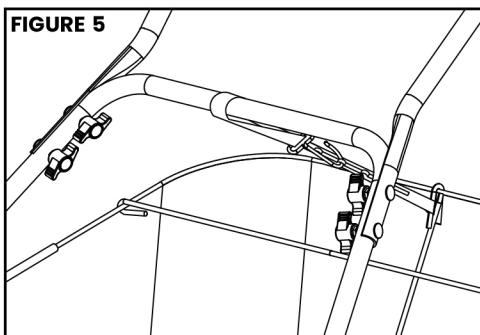

FIGURE 5
Step 6: Wrap one end of strap with hook over the middle of the handles and attach the hook to one of the five corrugated holes to suit your height and technique. (FIGURE 5)